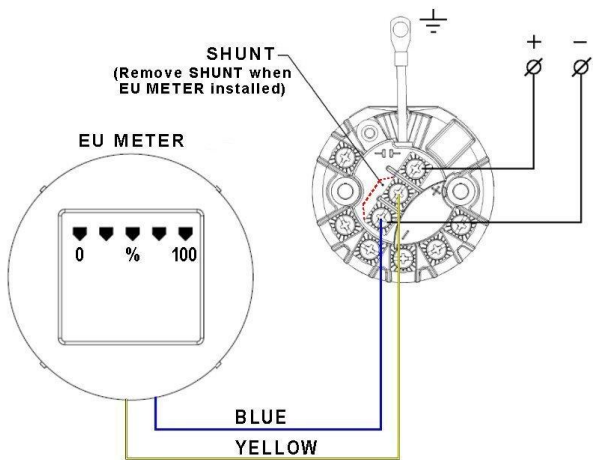

Figure 13: Installation with EU Meter
| Figure 13: Installation with EU Meter..... | 13 |
- If an EU meter is used, wire according to Figure 13.